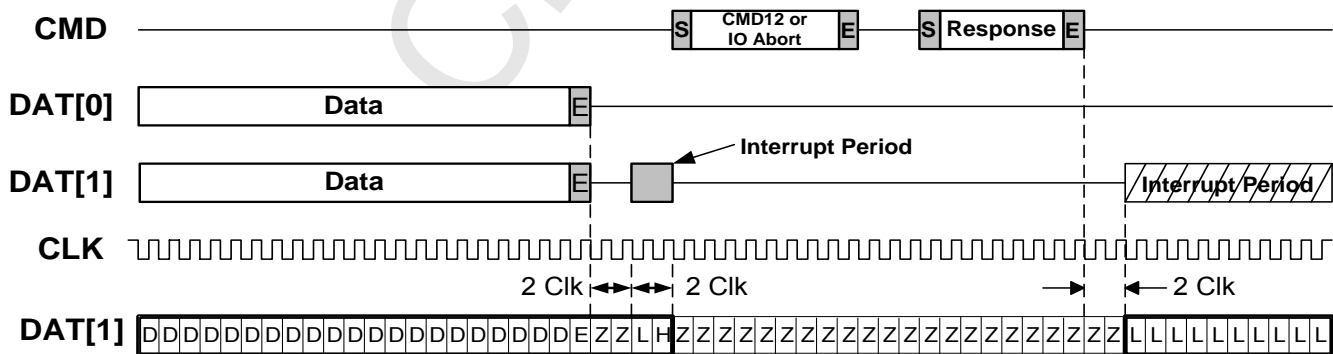
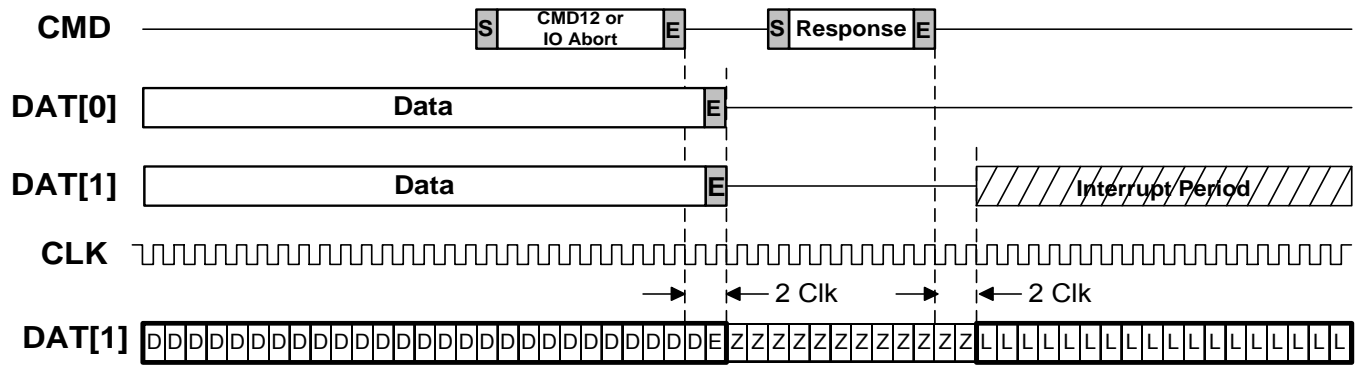

Figure 8-9 Terminated Read Multiple Interrupt timing (Case 1)
Figure 8-10 Terminated Read Multiple Interrupt timing (Case 2)
In the case of the Read Multiple Block or Write Multiple Block commands to the memory of a combo card, a special case for the timing of the Interrupt Period is created when the transfer is terminated. The Read Multiple and Write Multiple commands cause the card or host to transmit blocks of data until the operation is terminated by the host issuing a CMD12 or I/O Abort. In the case of a host transfer abort (memory or I/O), the timing of the Interrupt Period is the same. The Interrupt Period (if active) ends 2 clocks after the end bit of the stop transmission command (CMD12 or I/O Abort). The Interrupt Period re-starts 2 clocks after the end bit of the response. There are 2 cases for the Interrupt Period, depending on when the host issues the CMD12 or I/O Abort. Figure 8-9 shows the timing of the Interrupt Period for a Read Multiple command if the stop transmission is issued after a block of data has begun. In this case, the normal Interrupt Period begins 2 clocks after the end of the last data block. The Interrupt Period again begins 2 clocks after the end of the response to the transfer abort.
Figure 8-10 shows a second case where the read multiple transfer was terminated during data transfer and the effect on the Interrupt Period. The read data transfer is terminated by a CMD12 (memory) or an abort I/O write (CMD52). One clock after the abort, the data shall terminate and the card shall send a single end bit before releasing the data bus. Two clocks after the response end, the Interrupt Period begins when the card can signal interrupt by asserting a 0 (L) on the DAT[1] line.
The termination of a Write Multiple command has the same timing as shown in Figure 8-9 and Figure 8-10.